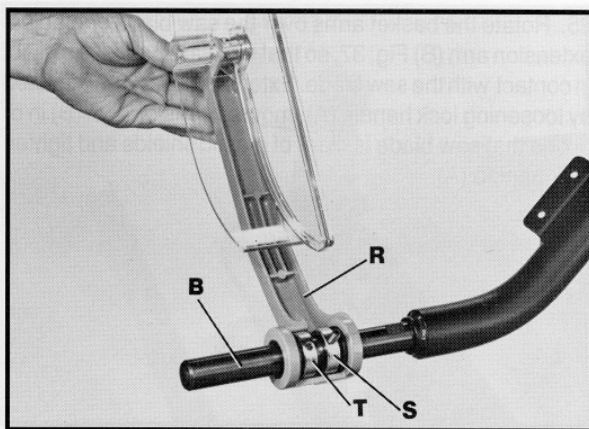

Fig. 33
20. Assemble the basket arm (R) Fig. 33, with both side and top plastic shields, collar (S) with long set screw and collar (T) with short set screw to extension arm (B) as shown.